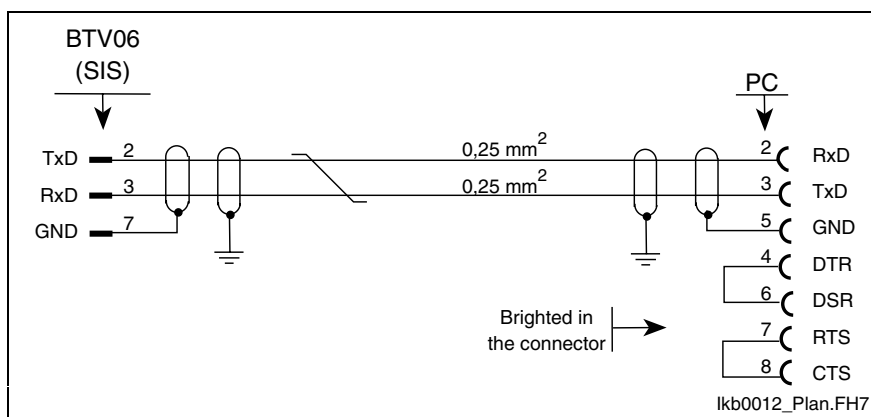

Fig. 8-7: Cable plan of the IKB0012
- Fig. 8-7: Cable plan of the IKB0012 8-6